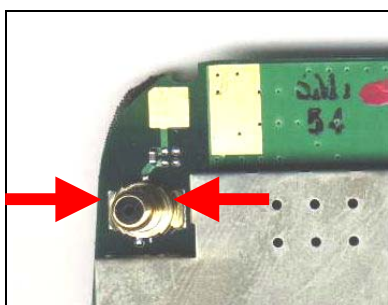

Fig. 2.2
- Check if the External Antenna Connector (Fig2.2) is incorrectly soldered, mechanically damaged, dirty, deformed or oxidized. Measure the resistance through the Antenna Connector; it should be less than  $1\Omega$ . Replace Antenna Connector if it's necessary.